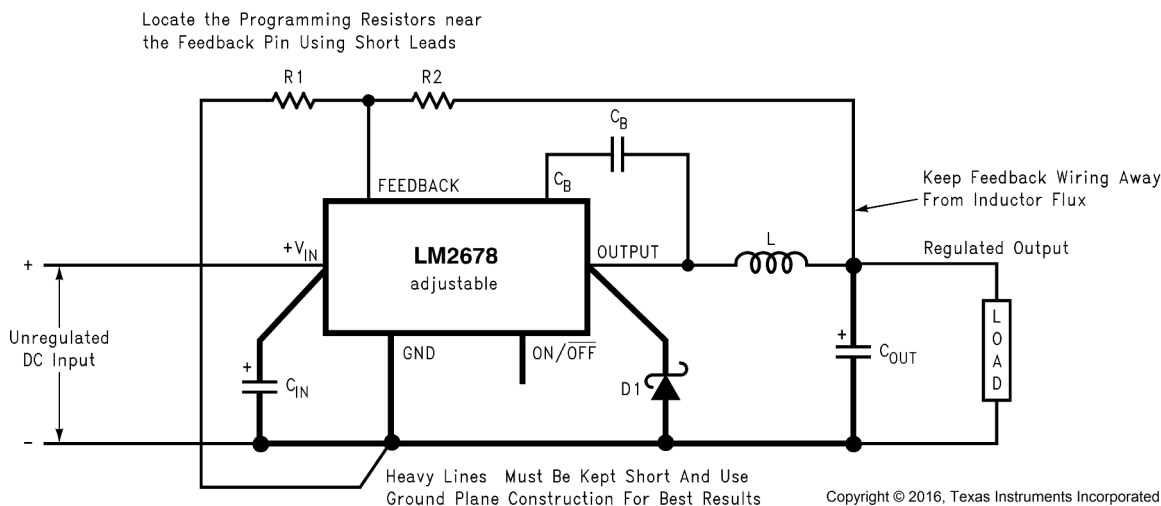

Figure 7-7. Basic Circuit for Adjustable Output Voltage Applications
Step 2: Select an LM2678S-ADJ. To set the output voltage to 14.9-V two resistors need to be chosen (R_1 and R_2 in Figure 7-7). For the adjustable device the output voltage is set by Equation 1.